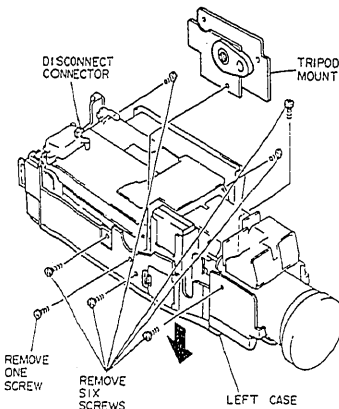

Fig. 2-7
- 1) Remove one (1) screw holding the tripod mount. (See Fig. 2-7)
- 3) Remove six (6) screws and remove the left case in the direction of the arrow.